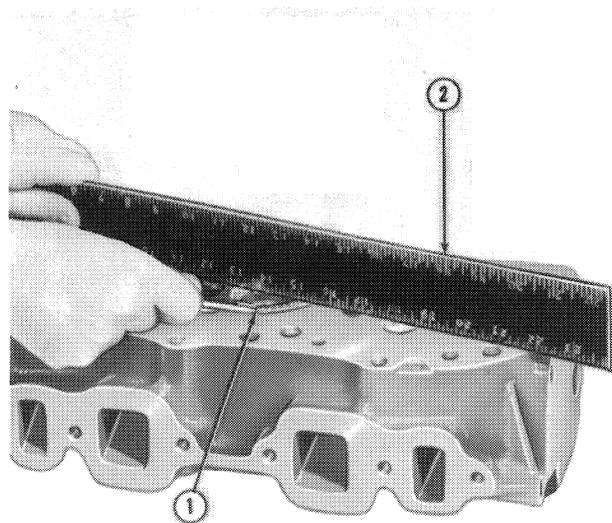

Figure 8
2. With a straight edge and feeler gauge, check the flatness of the cylinder head lengthwise, diagonally, and crosswise as shown in Figure 8. Specifications for flatness are 0.006 in. (0.15 mm) maximum overall or 0.003 in. (0.076 mm) in any six inches (152.40 mm).